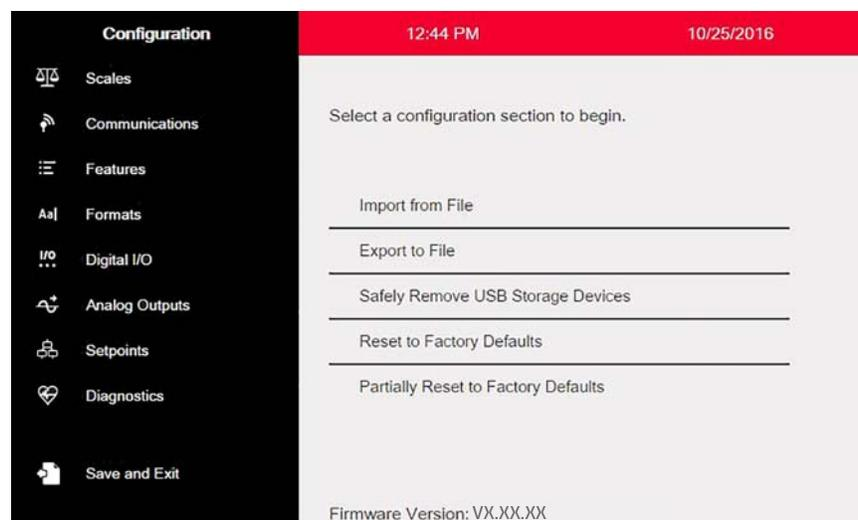
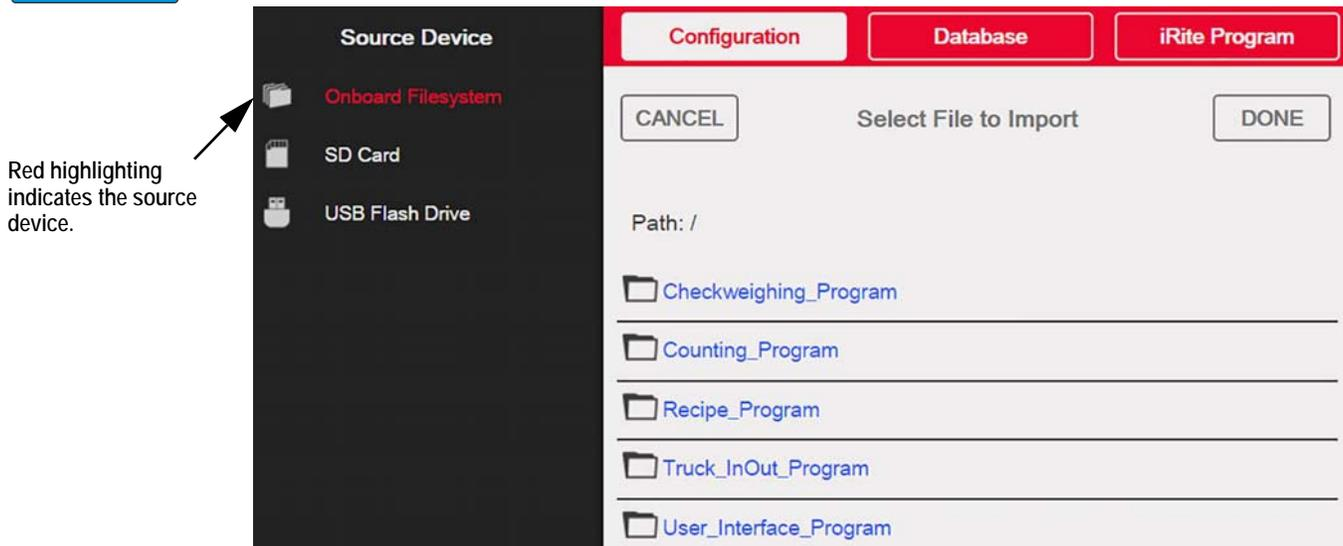

Figure 13-1. Configuration Main Menu
Figure 13-2. Import Configuration
Note The Import Configuration screen looks the same whether importing from an onboard filesystem, a micro SD card or a flash drive. The only difference is that the source device will be highlighted in red on the left side of the screen. For an example, in Figure 13-2, a file is being imported from an onboard filesystem.
2. Press *Import from File*. See Figure 13-1. The Import Screen (Figure 13-2) will display. Load both the .rev and .cod files to use the built-in application programs.
4. Select *Import from File* (see Figure 13-1). The Import Screen (Figure 13-2) will display.
2. Press *Import from File*, see Figure 13-1. The Import Screen (Figure 13-2) will display.
2. Press *Import from File* from above diagram, see Figure 13-1. The Import Screen (Figure 13-2) will display.
3. Press *Export to File*. See Figure 13-1. The Export Screen will display.